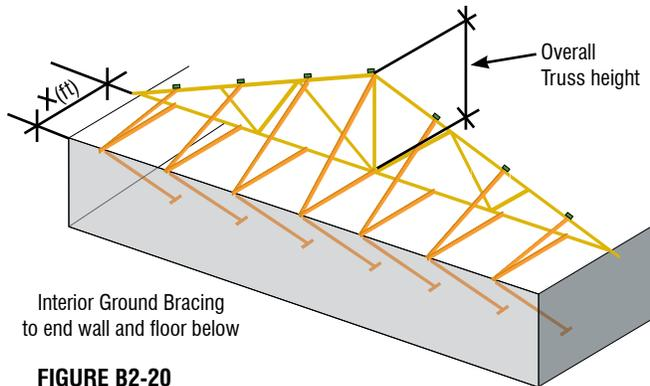

FIGURE B2-20
- Example of first Truss installed with interior Ground Bracing to top of wall and back to floor below (see Figures B2-20 and 21).